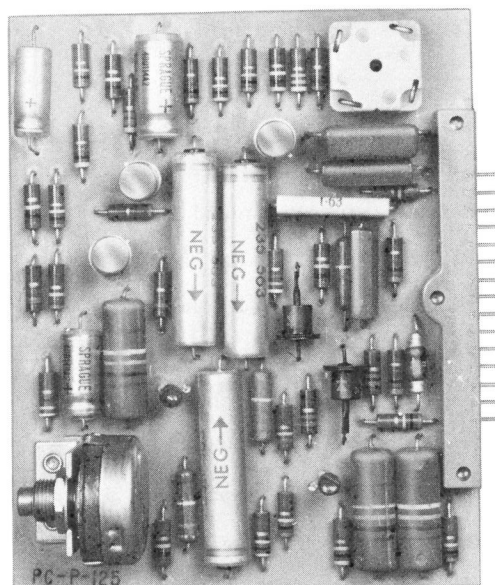

Fig. 9—KS-16765, List 6 Amplifier
2.14 The KS-16765, List 6 amplifier (Fig. 9) is of printed wiring board construction and provides amplification for both recording and reproducing, an automatic volume control feature for minimizing variation in level of recorded speech, and a high frequency oscillator to provide the bias current required for magnetic recording. List 6 amplifier supersedes List 4 amplifier and may be used as a replacement in all Lists 1 and 2 announcement sets.